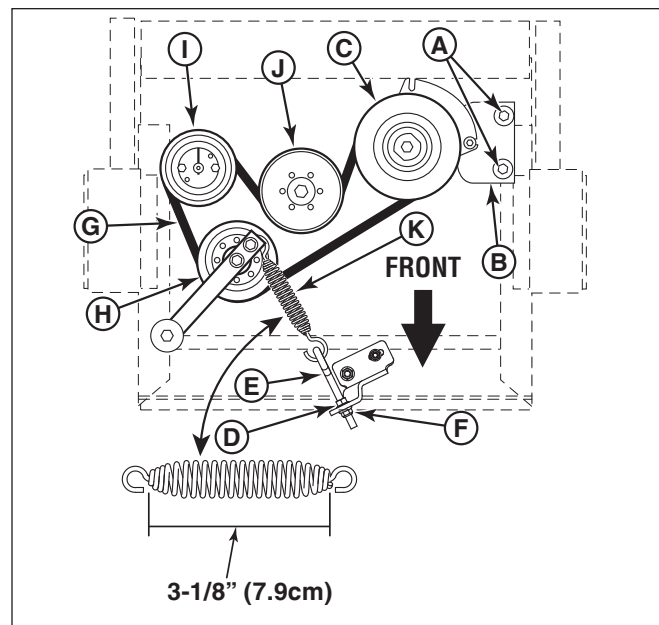

Figure 24. Pump Drive Belt (S/N: 2015675570 & Below)
3. Remove the clutch anchor bolts (A, Figure 24) that fasten the clutch anchor pad (B) to the anchor.
4. Unplug the PTO clutch (C) from the wire harness.